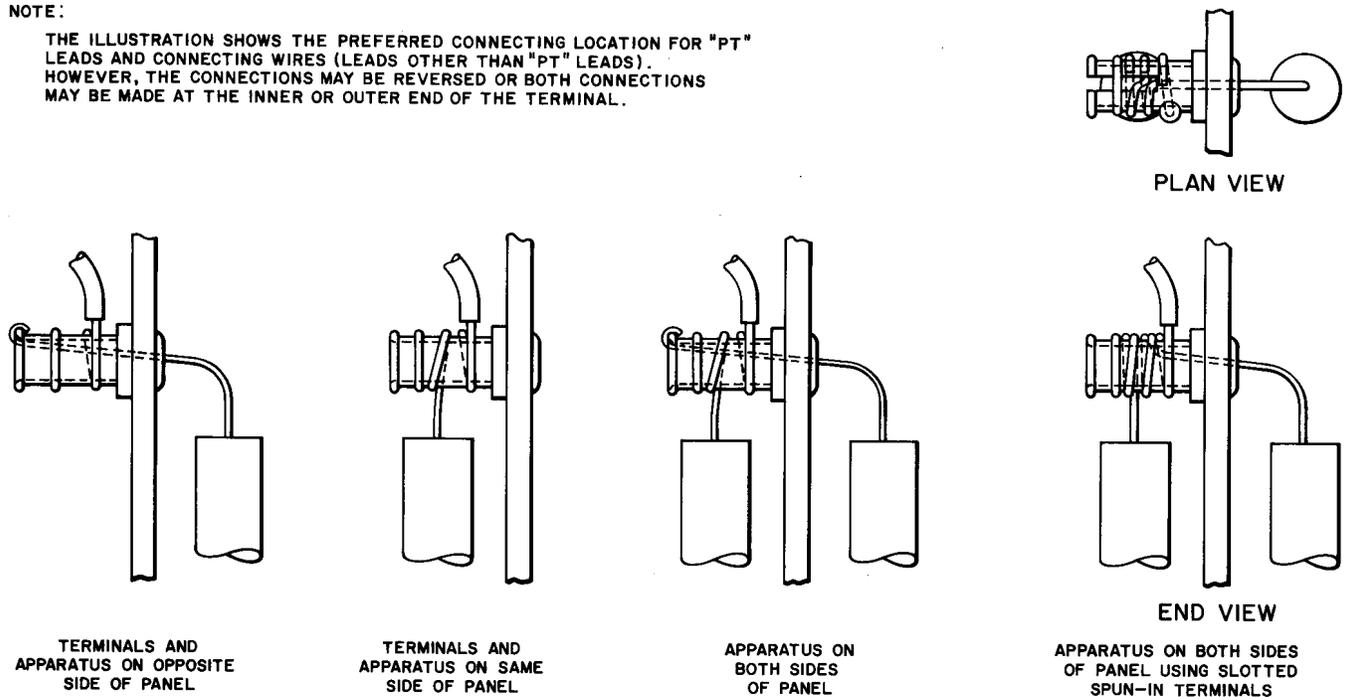

Fig. 12—Plier Connections to Spun-in Terminals (Solder Not Shown)
11.01 When soldering connections to spun-in, stand-off, and similar-type terminals as illustrated in Fig. 12 and 13, completely cover the wire with solder for at least one-half of the circumference of the terminal.
11.02 *Spun-in Terminals:* These terminals are frequently used for mounting pigtail apparatus. The connections shall be made as follows. (See Fig. 12.)